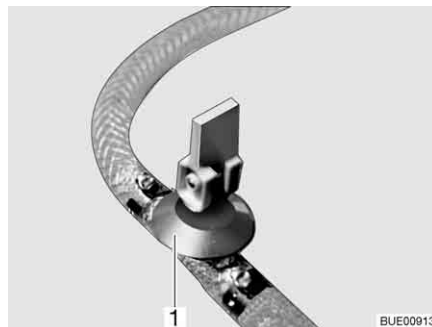
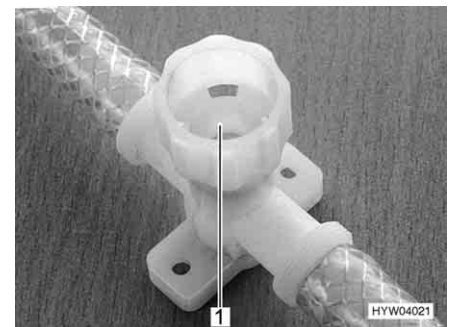

Fig. 229 Drain cock (with rocking lever)
Fig. 230 Drain cock (with twist cap)
- Close all drain cocks. To do this, position the drain cock's rocking lever (Fig. 229,1) horizontally or turn the drain cock's cap (Fig. 230,1) in a clockwise direction.